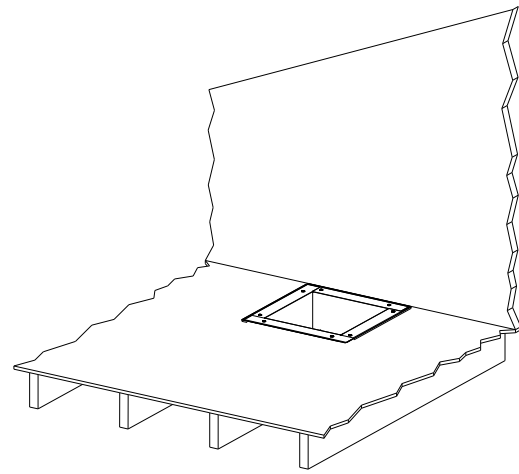

Fig. 2 – Add Plenum and Ductwork
2. Apply a bead of UL 181 rated caulk or approved duct mastic around the perimeter of the hole, and install the plenum and make appropriate connections to the ductwork (Fig. 2).